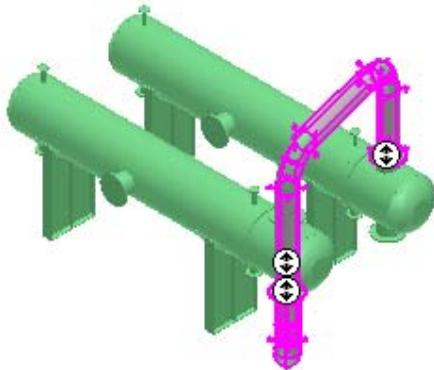

Figure 54: Mirrored Pipe Run
2. Select the mirrored pipe run in the pipeline **403-P**, as shown in Figure 54.